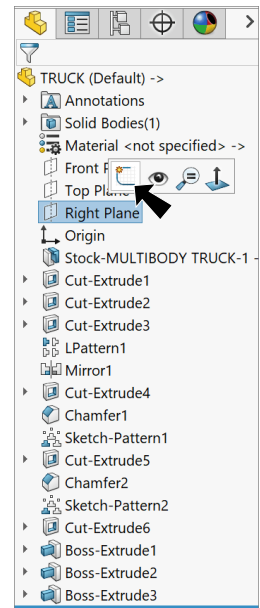

Fig. 85
Step 1. Click **Right Plane**  in the Feature Manager and click **Sketch** on the context toolbar, **Fig. 85**.